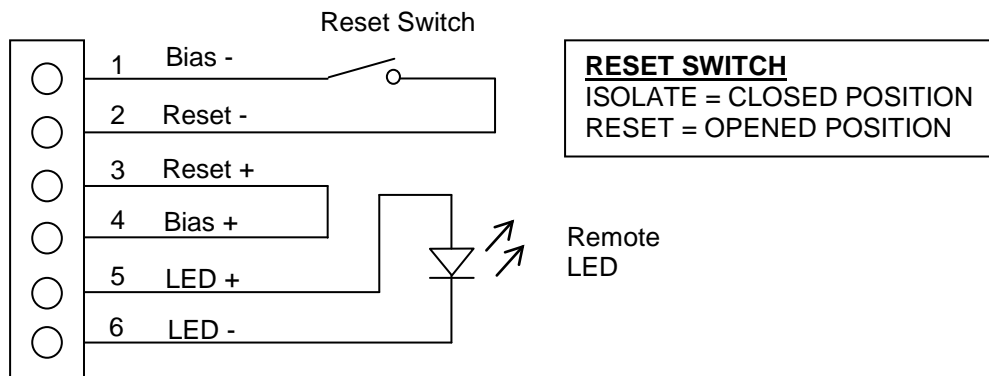

Figure 14 Wire Connection Details for Auxiliaries
Bias +/-	This output provides a 10V supply via a 1Kohm resistor to power the remote Reset/Isolate switch when connected as per Figure 14.
- c) Terminate the RESET, LED and Bias wires as per your site requirements or with reference to Figure 14